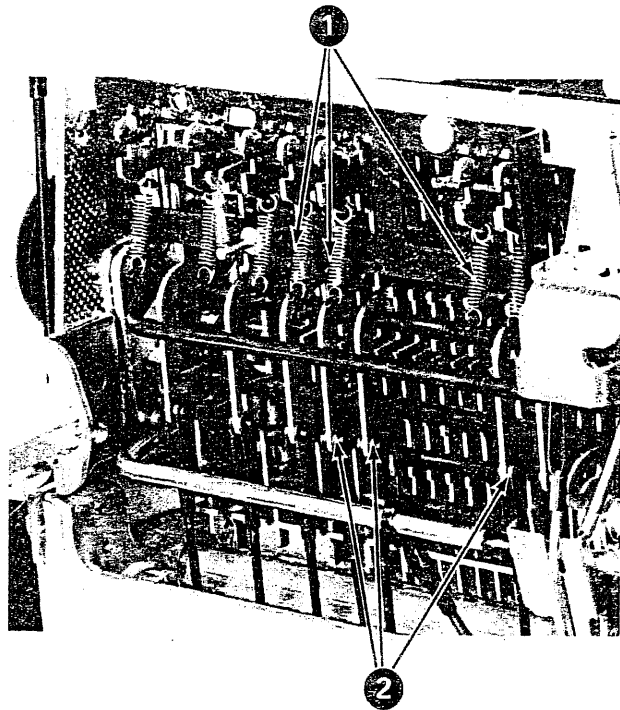

Figure 4-22. Rotate-Selection-Differential Removal (Steps 4 and 5)
4. Disconnect the clevises and remove them from the links (No. 2, Figure 4-22).